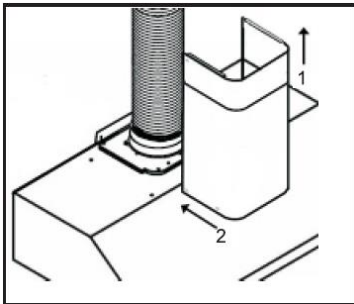

Fig. 2e
- n. Adjust the duct cover to the desired height and slide it into the duct cover mounting panel and bracket. **(Fig. 2e)**